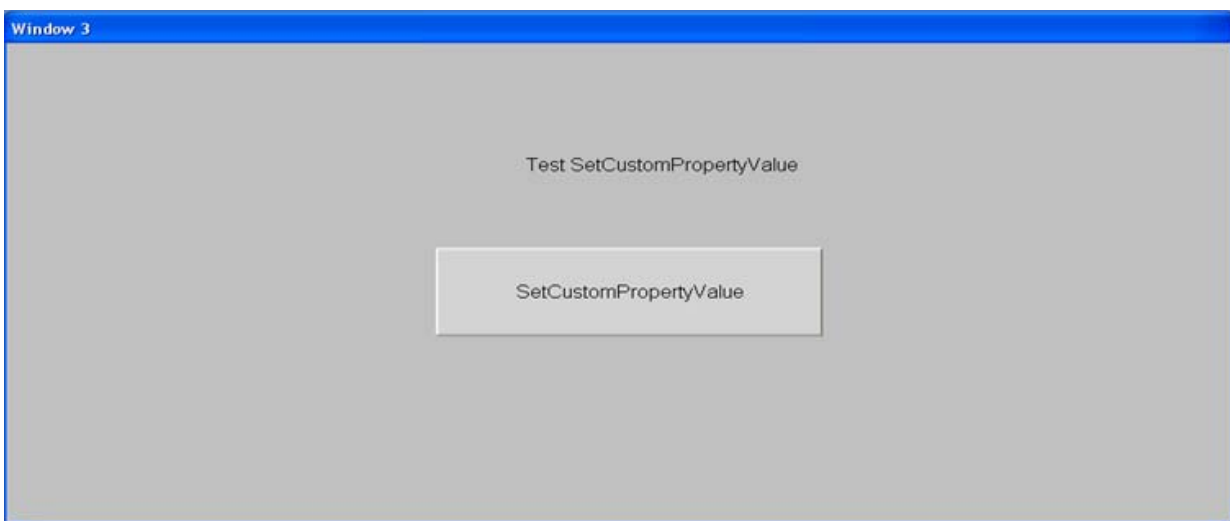

FIGURE 3: TEXT VALUE CHANGE
11. The Action Script changes the value display string to **Test SetCustomPropertyValue** (Figure 3 below).